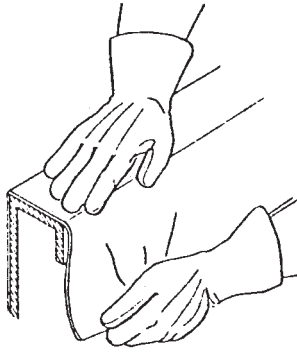

Fig. 2
4. Press the sheet into position by hand with a glove or cloth, taking care to avoid inclusion of air pockets. (See Figure 2.)